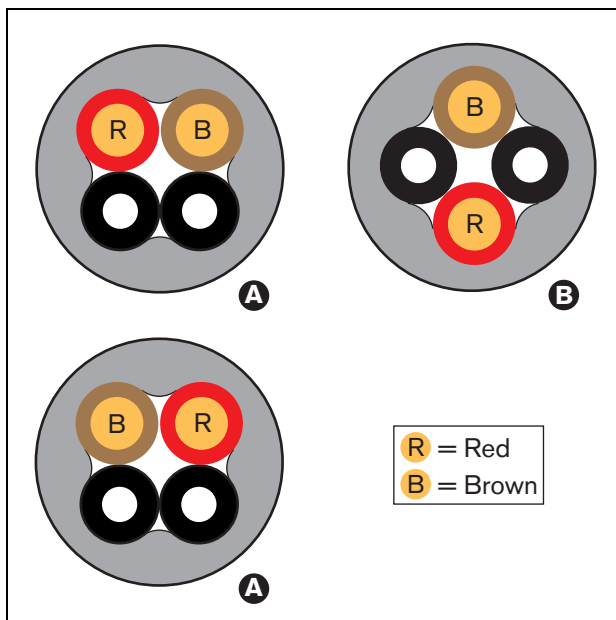

figure 29.5: Cable types
- Type A cables in which the plastic optical fibers are located next to each other (see figure 29.5, which shows both cable ends).
- Type B cables in which the plastic optical fibers are located opposite to each other (see figure 29.5, both cable ends are identical).